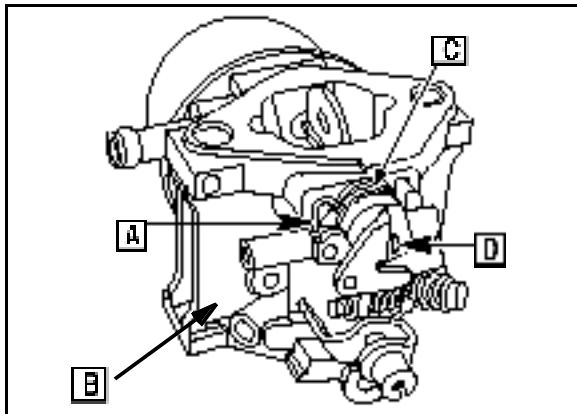

Fig. 61
8. Connect one spring end ([A] Fig. 61) to the carburetor body (B), the other end (C) to the choke lever ([D] Fig. 61) to hold choke plate open.